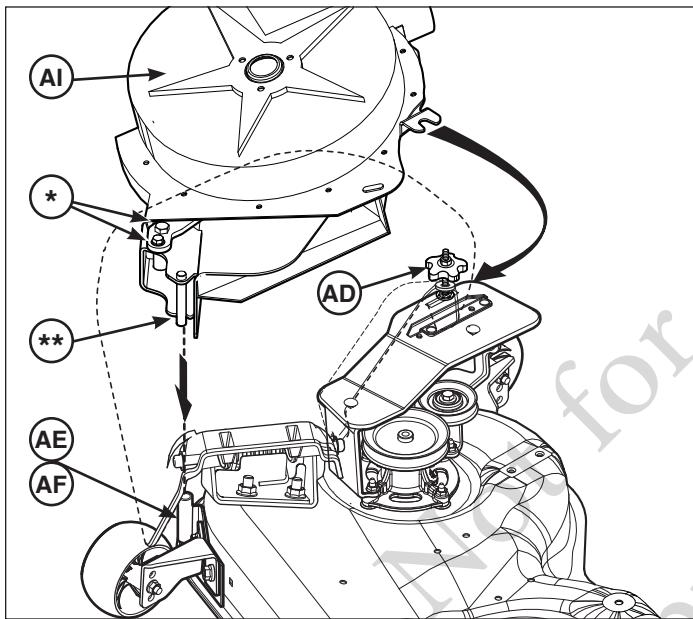

Figure 17
1. Loosen, *DO NOT remove*, the two nuts on the bolts (*, Figure 17) of turbo assembly (**AI**).